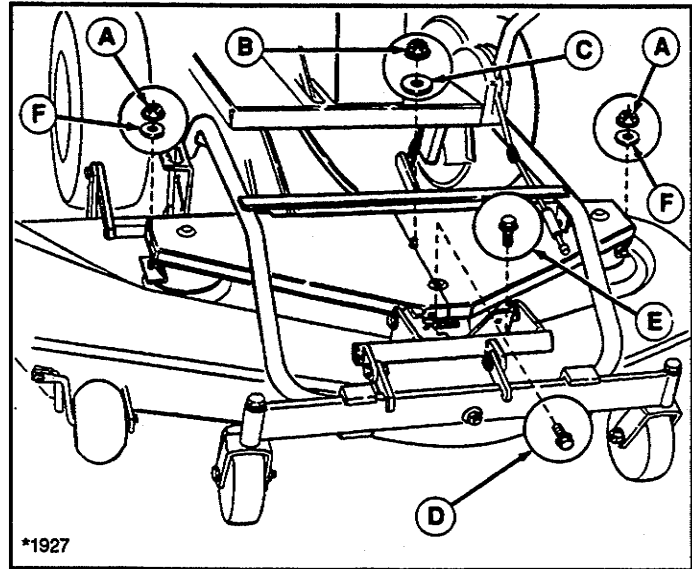

Figure 37. Belt Covers
8. Remove belt covers. See figure 37.
2. Remove belt covers. See figure 37.
12. Install belt covers. See figure 37. Make sure covers and deflector are properly installed before operation.